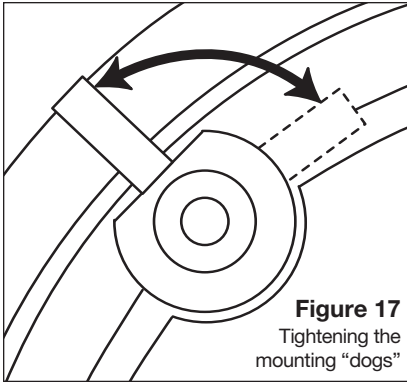

Figure 17
7. On both models, there are four clamps or mounting "dogs" which hold each speaker in place. The dogs are tightened via four front-baffle screws. To install the speaker, first rotate the dogs inward. Insert the speaker into the cutout and tighten the dogs by turning the screws clockwise. **DO NOT OVERTIGHTEN THESE SCREWS.** Over-tightening the clamps may make the grille difficult to install. (**See Figure 17**).